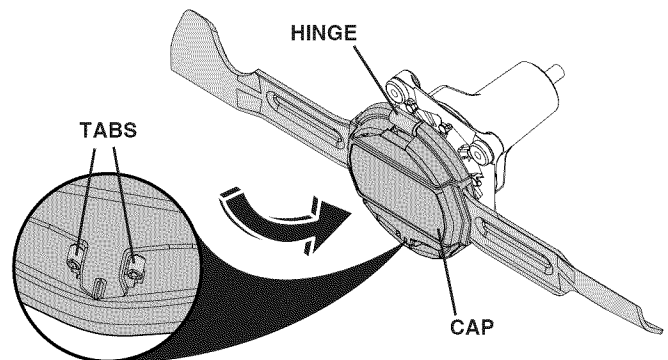

Fig. 20
- Reinstall cap. Hook cap onto hinge and rotate onto tabs. Press cap firmly into place, ensuring both tabs lock into cap. (See Fig. 20.)